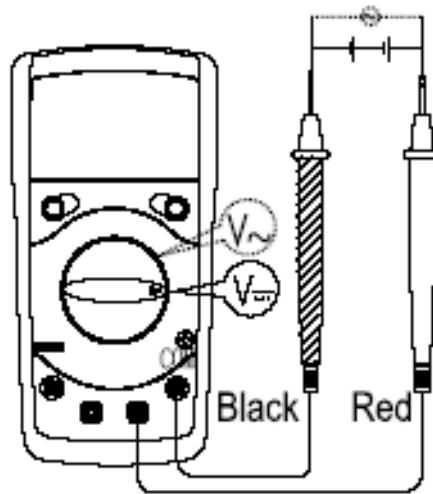

figure 3
A. DC VOLTAGE MEASUREMENT (SEE FIGURE 3)